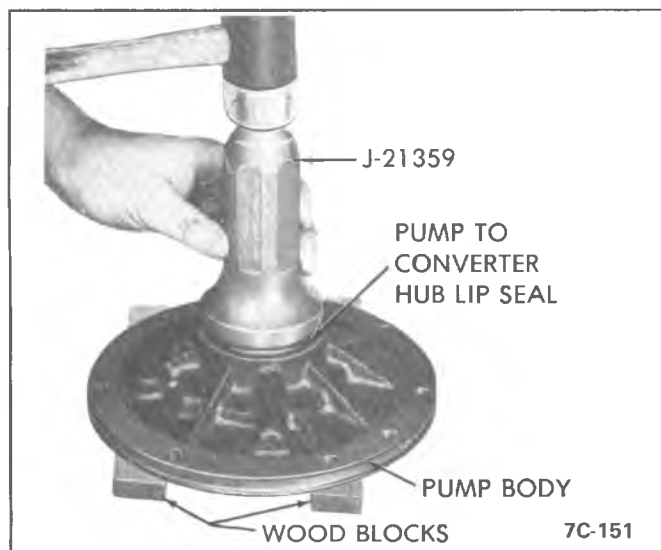

Figure 7A3-73 Converter Seal Removal
2. Install cooler by-pass spring, check ball and seat. Using Tool J-23112, press seat into bore until top of seat is flush with face of pump body. See Figure 7A3-74.